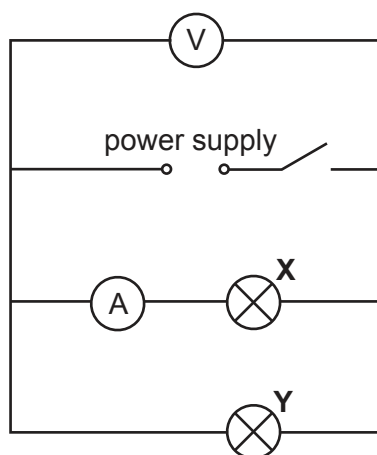

Fig. 3.1
- (ii) 2 similar lamps – any low voltage lamps will suffice, provided that they glow when connected as shown in Fig. 3.1. The lamps must be supplied in suitable holders
- (vi) sufficient connecting leads to build the circuit shown in Fig. 3.1, plus two spare leads.
1. The circuit shown in Fig. 3.1 below must be set up for the candidates.
During the course of the experiment, candidates will be asked to rearrange the circuit shown in Fig. 3.1.
Reconnect the circuit as shown in Fig. 3.1.